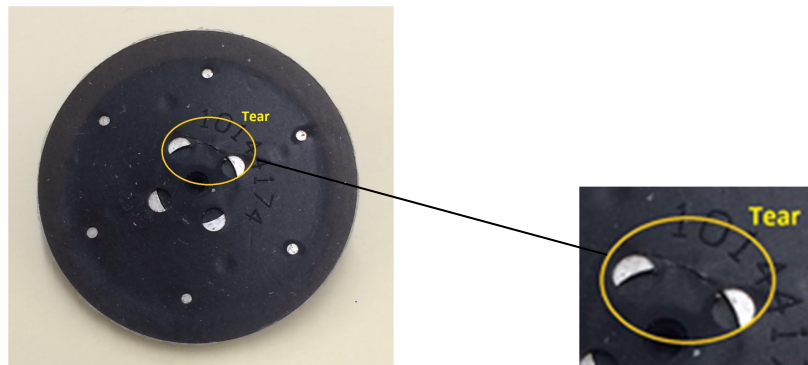

Figure 2
- a. If the valve seat is damaged (reference Figure 2), discard the exhalation valve and follow steps 8 through 17 in the Procedure to install a new exhalation valve. See Attachment 2.